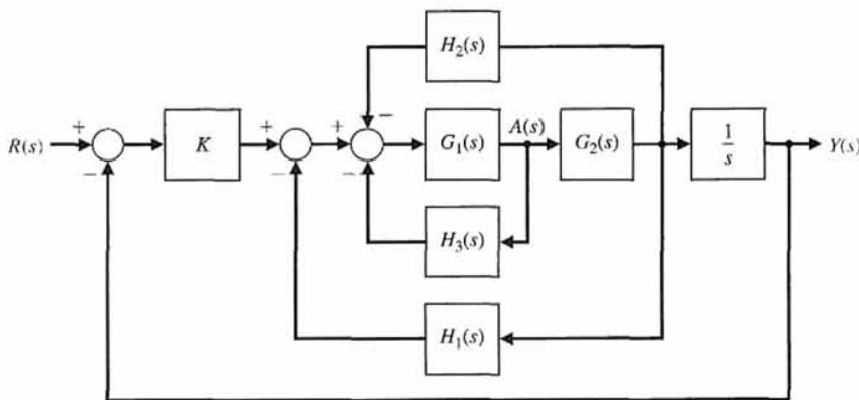

FIGURE E2.8 Ship steering system.
3. A control engineer, N. Minorsky, designed an innovative ship steering system in the 1930s for the U.S. Navy. The system is represented by the block diagram shown in Figure E2.8, where $Y(s)$ is the ship's course $R(s)$ is the desired course, and $A(s)$ is the rudder angle. Find the transfer function $Y(s)/R(s)$.